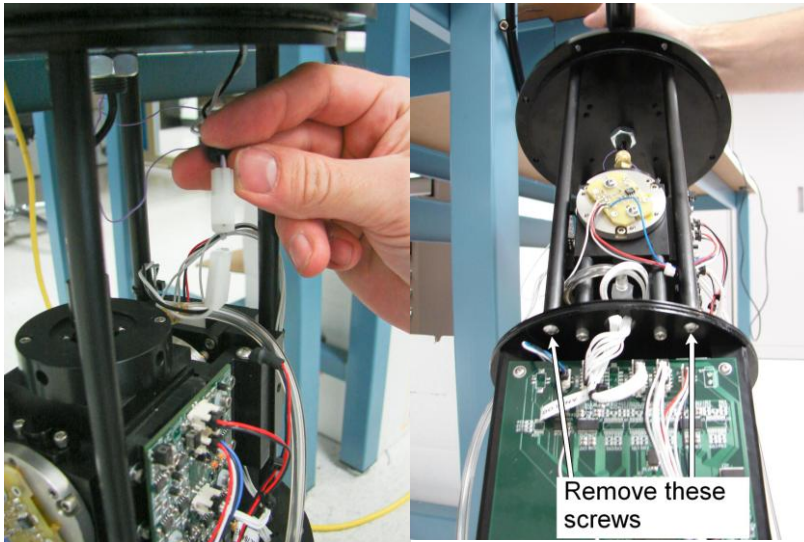

Figure 19: Preparing to Remove the Top of the Probe
- 3.) For best access to the optics, remove the top part of the instrument. Do so by unplugging the heater connector (Figure 19-left) and then unscrewing the four screws securing the top and mid-sections of the instrument (Figure 19-right). Then lift the top of the instrument straight up.